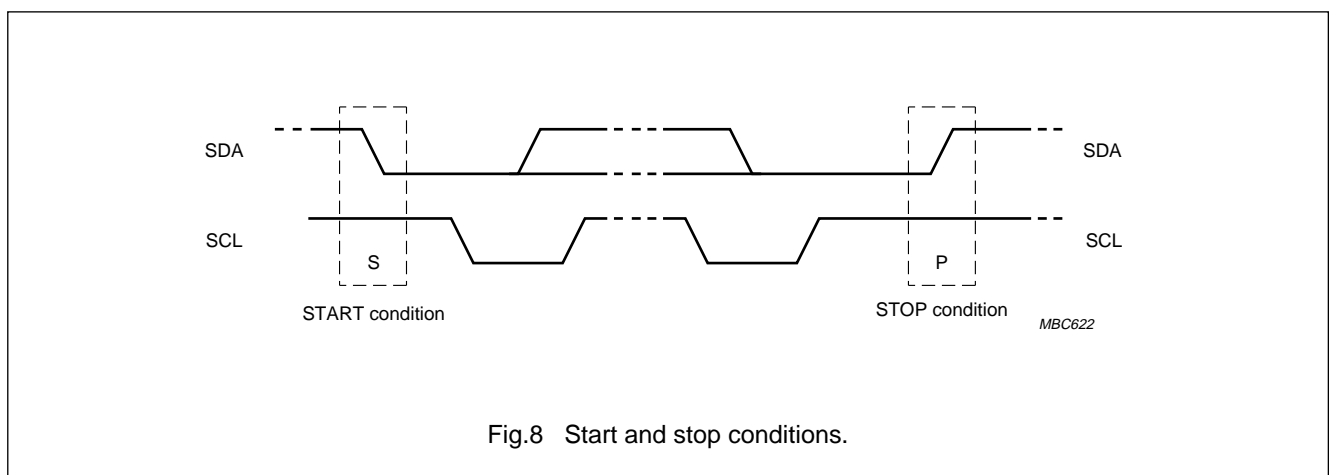

Fig.8 Start and stop conditions.
8.2 Start and stop conditions (see Fig.8)